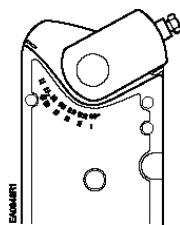

Figure 4.
- Insert the shaft adapter to the right as close as possible to the raised stop. See Figure 4.